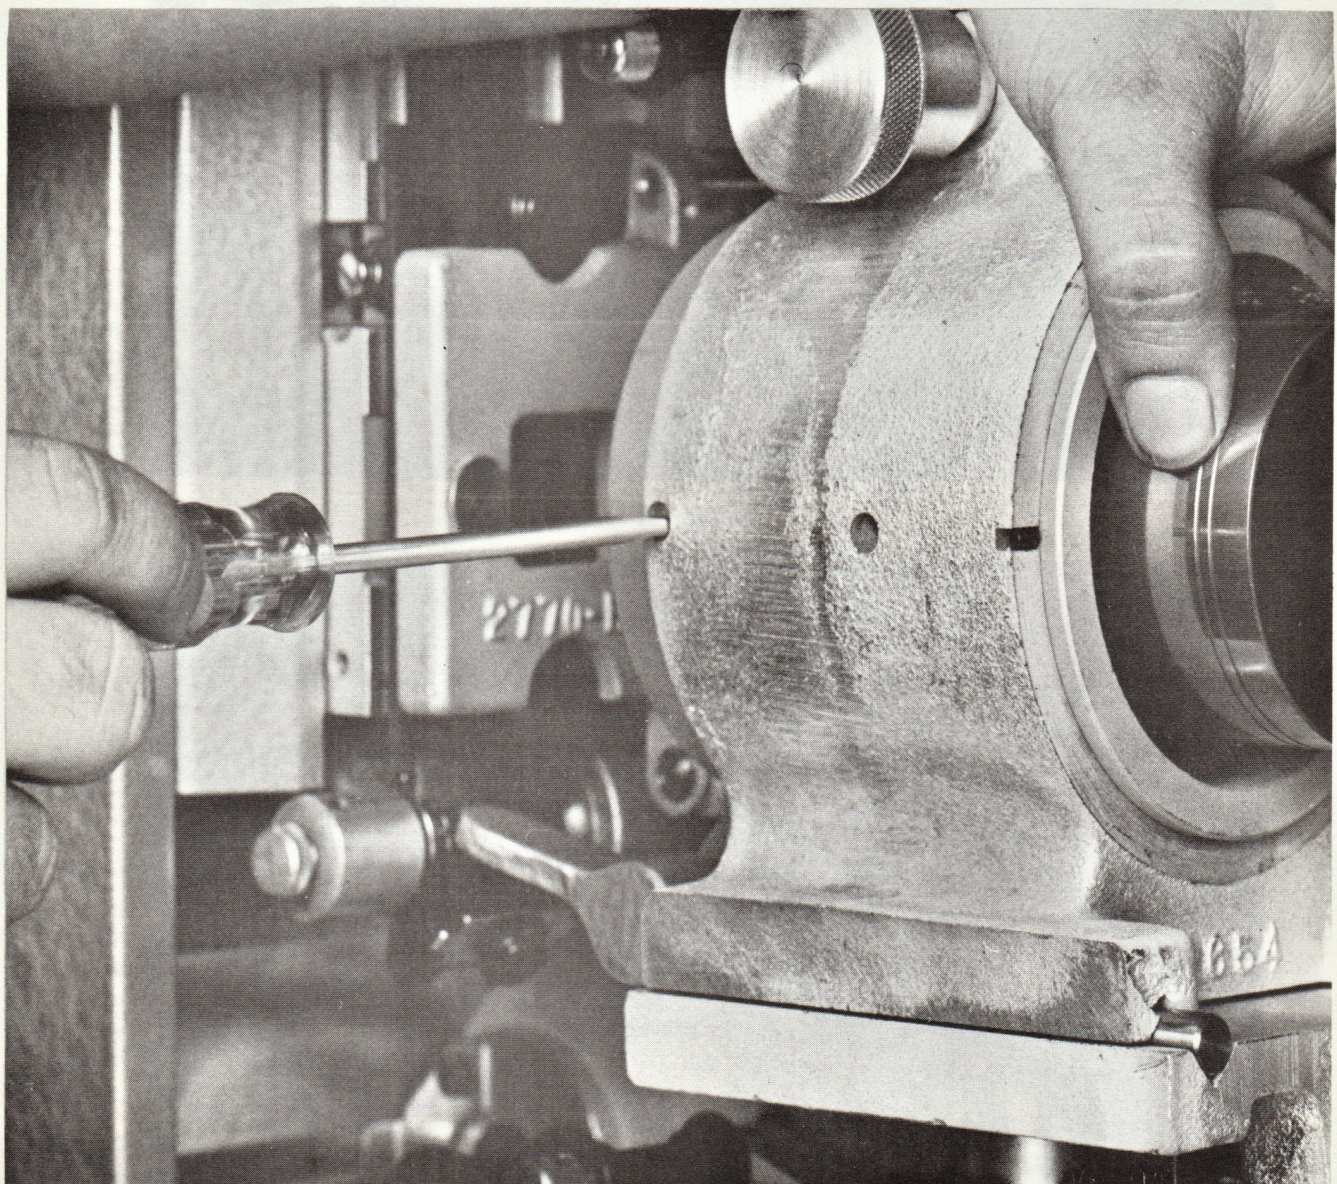

FIG. 8
1. Each PRO-35 Projector is supplied with two lens adaptors (See Fig. 8). Insert lens adaptor in lens mount making certain that the pin on the lens adaptor fits into the guided slot in the lens mount. In this position, an Allen Set Screw will be in direct line with the hole in the lens mount so that lens can be anchored.